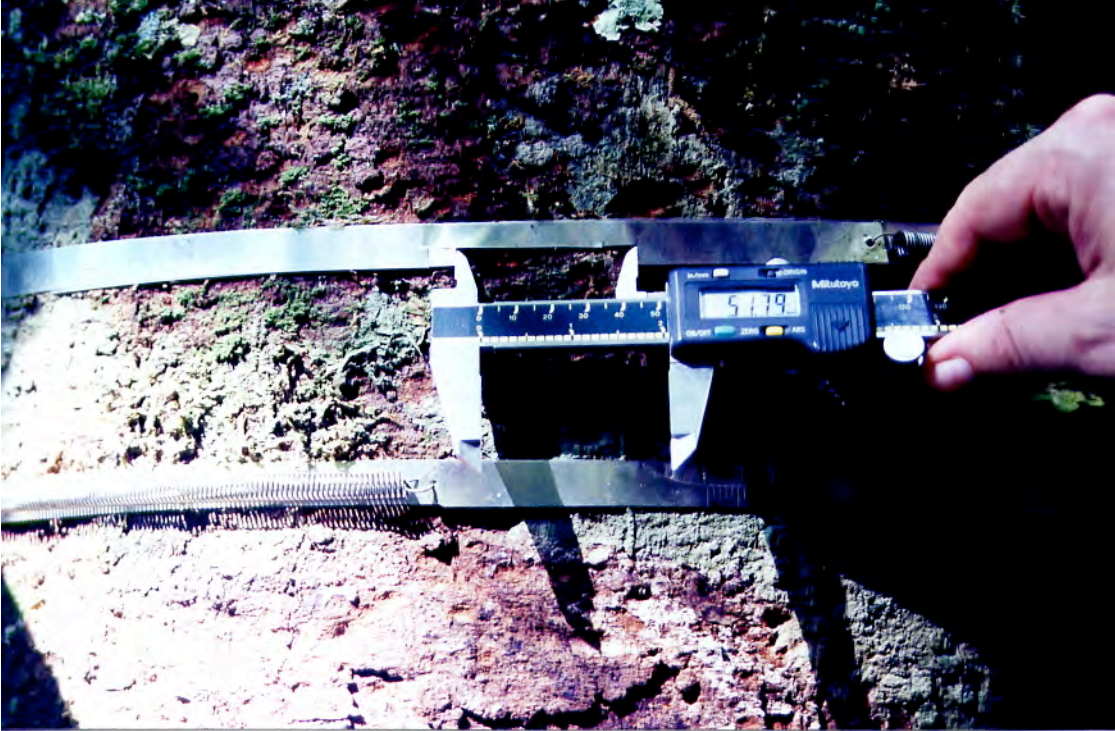

Figure 2: Picture of two band dendrometers (one above the other), and measurement of the window size of one of the dendrometers with calipers.
24. Use the digital calipers to measure the distance between the end of the window and the trail end of the band (the actually exposed window). See figure 2 below. Record on the datasheet. (Make sure the caliper is set to read in mm.)